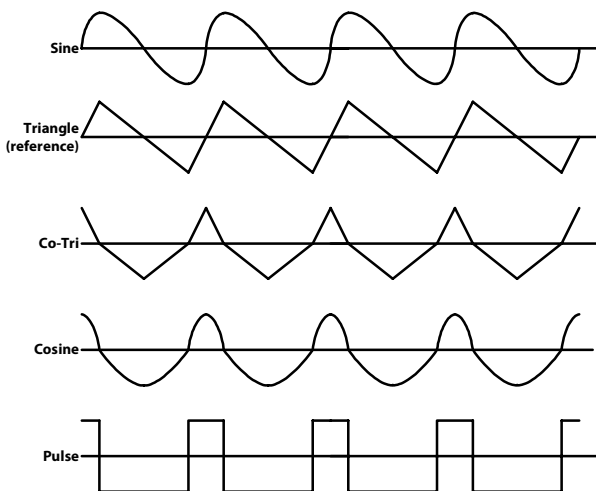

Fig 5a. The slope effect (controller 9 (27) on left side)
case. Because of different component tolerances, the frequency can shift slightly by some few percents. **Fig. 5a and 5b** shows how the waveforms changes with the Slope parameter. If the **controller (9)** is in mid position a voltage range of ± 5 V at **CV-jack (8)** is needed for the full parameter control (-5 V falling - +5 V rising sawtooth). The Co-triangle and the Cosine waveforms will change their form probably surprisingly. This is, because these waves were first split into certain pieces and then reconstructed to achieve the wished phase shift of 90 degrees. The shortest rising/falling time of the triangle wave is less than 25 μ s. With this the maximum frequency can be calculated to slightly more than 20 kHz, where the shape could be only a triangle wave, of course.